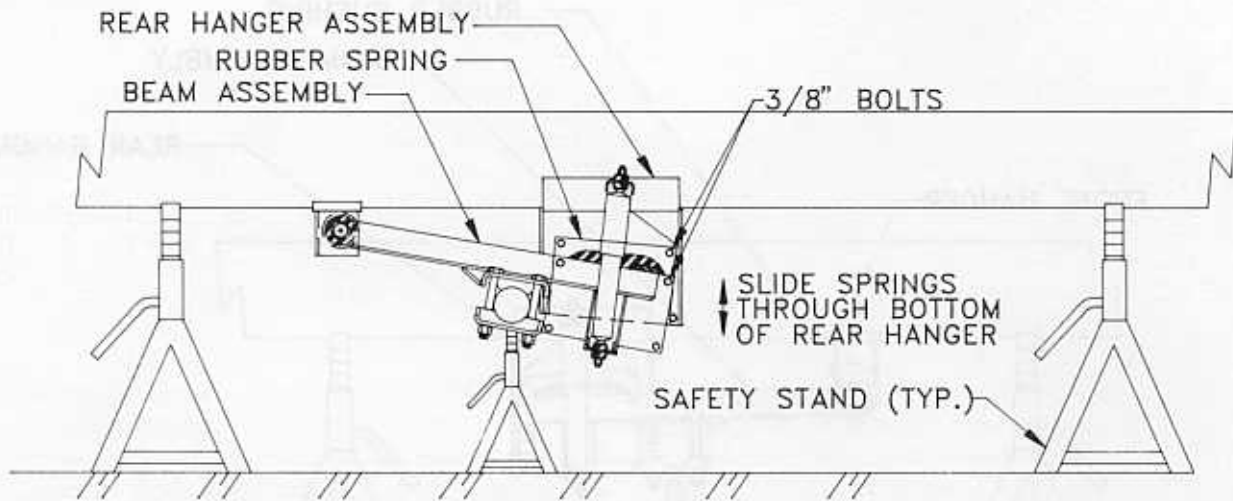

FIGURE 2: RUBBER SPRING REPLACEMENT
- 4.) Remove 3/8" bolts (SEE FIGURE 2) that secure rubber springs to beam and rear hanger assembly.